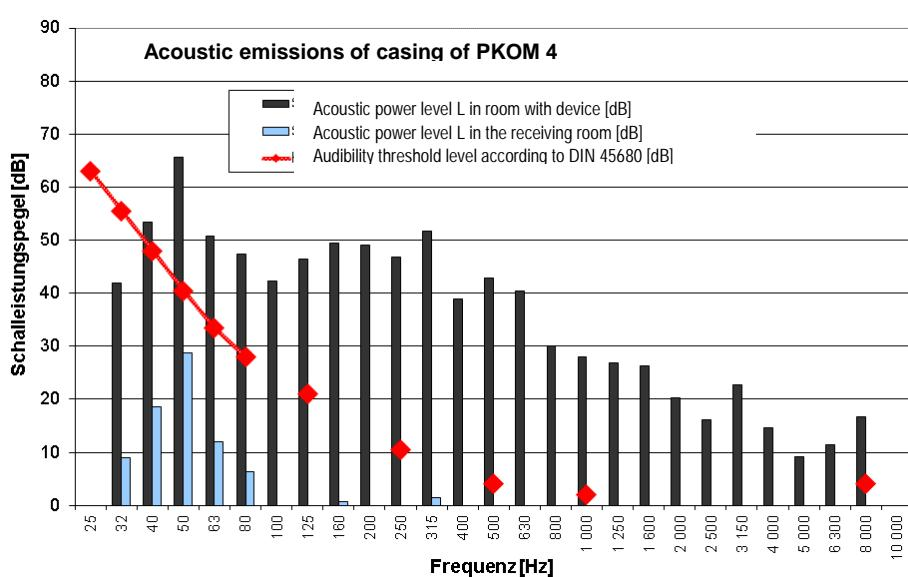

Figure 1: Noise emission of casing of unit PKOM 4 A
Sound suppression: The acoustic pressure level was evaluated as 49 dB (A) in the room where the unit is installed with an equivalent absorption area of 4 m² and at an air flow rate of 200 m³/h. This is significantly higher than the threshold value of 35 dB(A), the unit must therefore be installed in an adequately sound insulated room separate from the living area, see figure 1.